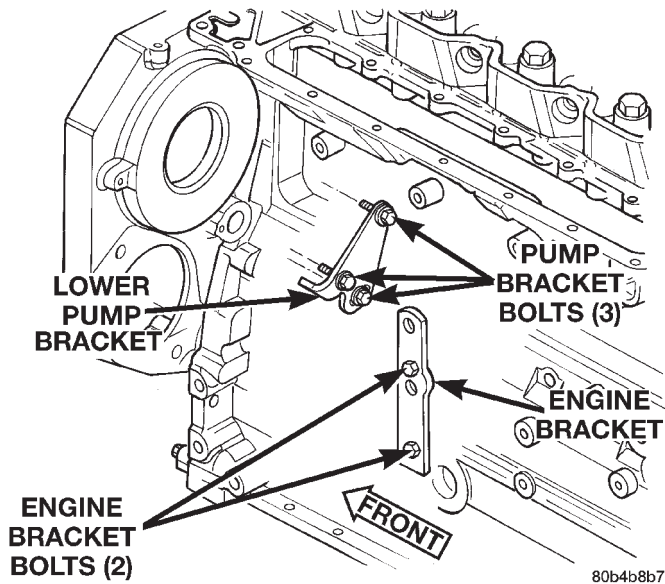

Fig. 69 Lower Pump Bracket and Mounting Bolts
(13) Remove 3 lower pump bracket bolts (Fig. 69) and remove lower pump bracket. Loosen, but do not remove 2 engine bracket bolts (Fig. 69).